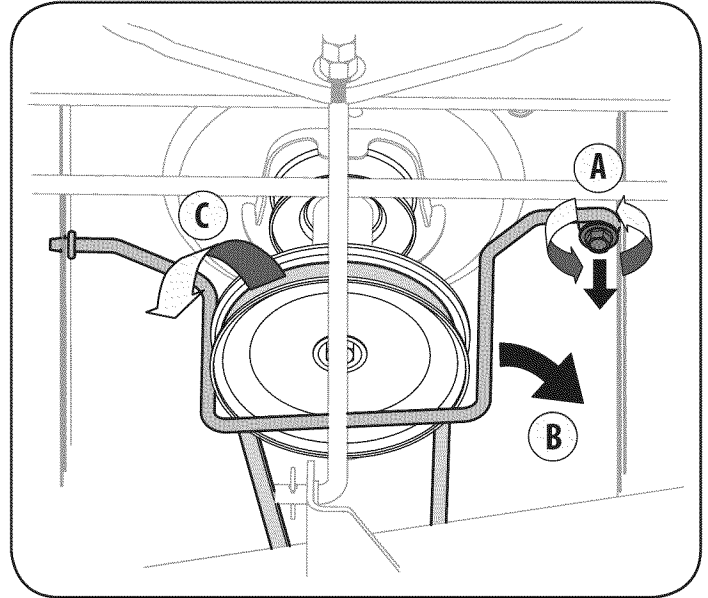

Figure 17
- Remove the self-tapping screw (A) that secures the belt-keeper rod from around the tractor's PTO pulley, then remove the belt keeper rod (B). See Fig. 17.
- Remove the belt (C) from around the tractor's PTO pulley. See Fig. 17.